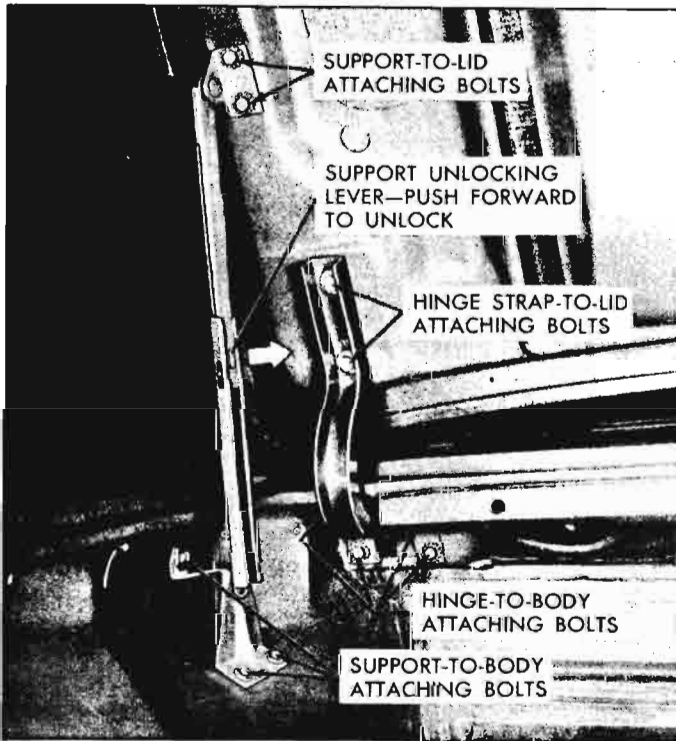

Fig. 10-82—Engine Compartment Lid Hinge and Support
3. With the aid of a helper holding lid in open position, remove lid support attaching bolts from lid (fig. 10-82).
strap attaching bolts (fig. 10-82) and remove engine compartment lid.
1. To adjust the engine compartment lid *forward*, *rearward* or *sideways* in the body opening, loosen hinge strap-to-lid attaching bolts (fig. 10-82) and shift lid to required position, then tighten bolts.
2. To adjust the front of the lid *up* or *down* or to adjust the lid *sideways*, loosen hinge-to-body attaching bolts (fig. 10-82), then shift lid to required position and tighten bolts.
2. Remove lid support attaching bolts from both body and lid (fig. 10-82) and remove support.